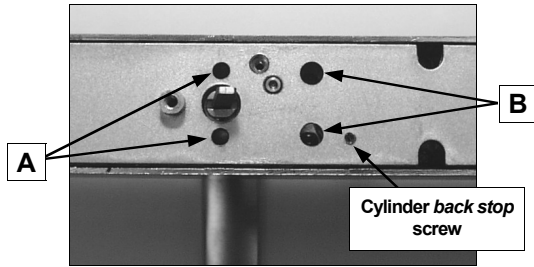

Fig. 1: Install Cylinder if not already installed at the factory
1. **Install Cylinder if not already installed at the factory.** Screws A & B (see Fig. 1) are correctly set at factory. If it is difficult to screw in the cylinder, loosen the two screws near the actuator (A) one turn. If you find the cylinder is still difficult to screw in, then loosen the other screws (B) one turn. **Do not loosen the screws all the way or it may be difficult to replace them properly!** **Note:** The trim is manufactured to use a 1-1/8" or 1 1/4" *Alarm Lock* mortise cylinder with a HW-1302 cam. If the cylinder that will be used is longer than 1 1/4", a collar must be utilized. Please see the collar information on the previous page.